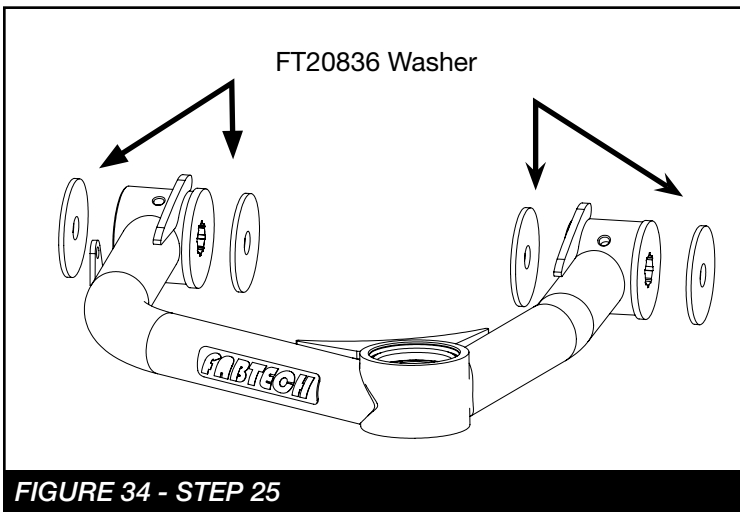

FIGURE 34 - STEP 25
25. Install the FT20868 (Driver) & FT20869 (Pass) upper control arms using the factory bolts. Install the bolts with the bolt head inside the tower and the threaded end outside. **NOTE: When installing the arms, install a FT20836 (washer) on both sides of the bushings. Do not tighten at this time. Final locktite/ torque procedure will be done at step 34. SEE FIGURE 34**